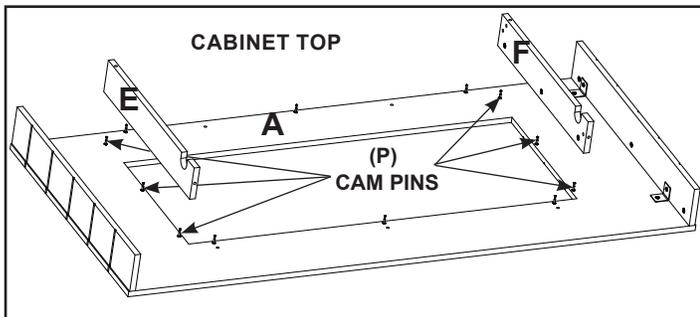

Figure 11
- Align parts “E” and “F” onto the three (3) Cam Pins (P) installed on each side of part “A”. See Figure 11.